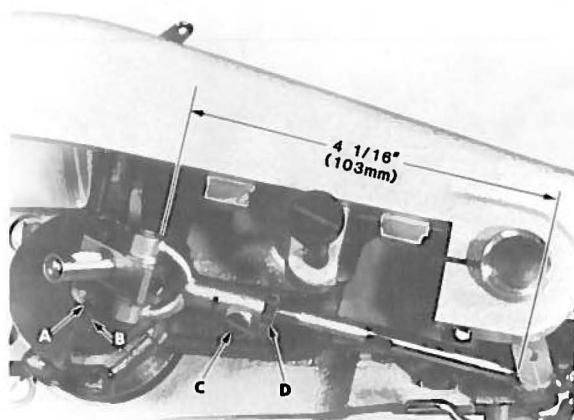
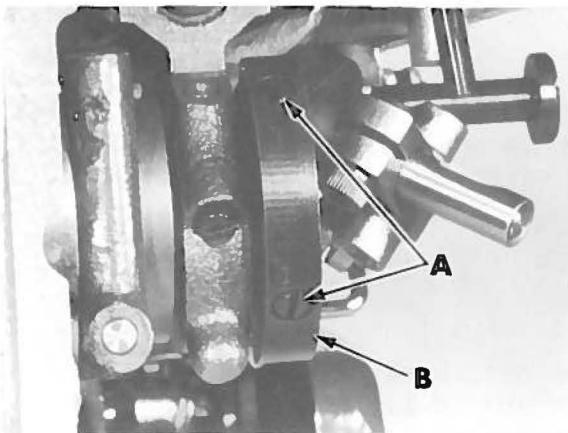
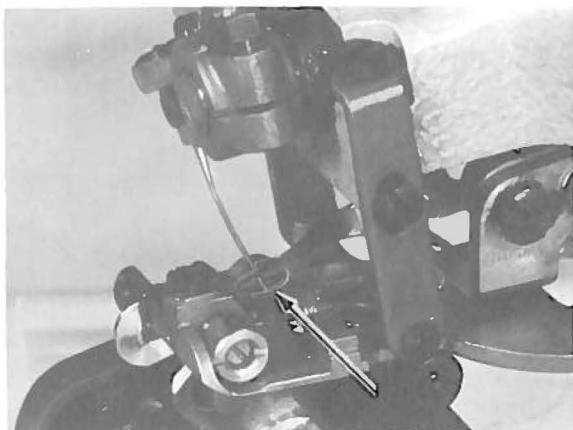

Fig. 6
Fig. 7
Fig. 11
In the left end of the mainshaft (A, Fig.6) is a "V" groove and on the looper crank (B) is a timing mark.
Turn the handwheel in operating direction until the "V" groove in the mainshaft is at bottom. Loosen two screws (A, Fig.7) in the looper crank (B) and position the crank so that the timing mark lines up with the right edge of the "V" groove in the mainshaft (see Fig.6).
Hold crank (B, Fig.7) against needle drive eccentric and tighten screws in looper crank securely.
The approximate distance from the back side of the front ball to the near edge of the inside of link pin should be 4 1/16 inches (103.2mm). See Fig.6. This is merely an approximate setting.
If adjustment is required, loosen clamp screw (A,Fig.9) and move looper sleeve (B,Fig.8) to the left the LEAST AMOUNT required, until this condition is obtained and tighten clamp screw. Rotate the handwheel in operating direction and check to ensure the needle does not strike the crotch of looper (see Fig.11).
If adjustment is required, loosen set screw (A,Fig.7) and turn crank (B) slightly as required until this condition is obtained.
Rotate handwheel in operating direction to ensure needle enters approximately equal distance between the prongs of looper (see Fig.11). If adjustment is required, loosen clamp screw (A,Fig.9) and carefully rotate looper eccentric sleeve (B,Fig.8) until this condition is obtained, being careful not to move eccentric sleeve left or right. Tighten clamp screw securely. NOTE: "LOOPER TIMING AND ADJUSTMENT" has been a coordination of settings basically involving looper carrier, driving crank and looper eccentric sleeve. Different materials or different threads used may require a slight variation of settings. If necessary, only roll the looper to the needle slightly by loosening screw (C,Fig.6) and nut (D) permitting rotation of looper carrier to achieve desired conditions... retighten nut and screw.